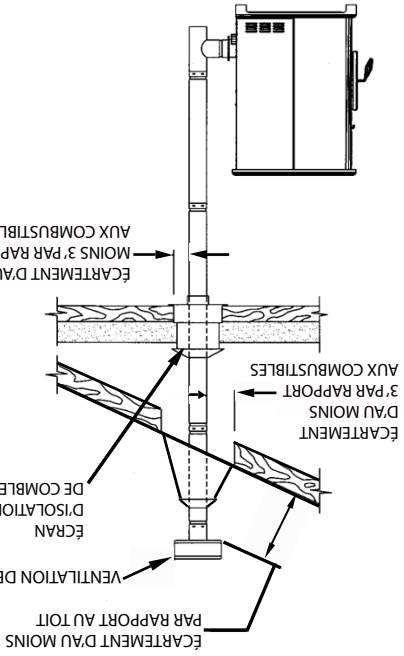

FIGURE 6
B. VERTICALEMENT AVEC UN SYSTEME DE CHEMINÉE NEUF (Figure 6)